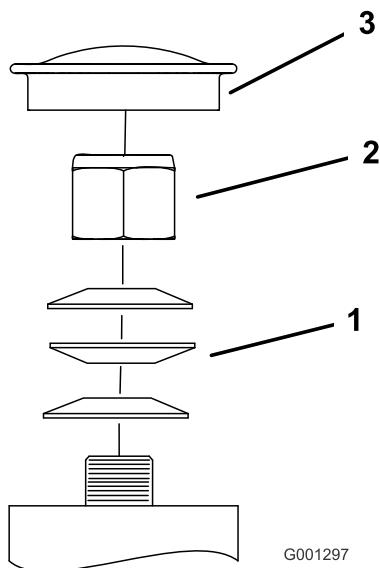

Figure 58
3. Remove the dust cap from the caster and tighten the lock nut (Figure 58).
4. Tighten the locknut until the spring washers are flat, and then back off a 1/4 turn to properly set the preload on the bearings (Figure 58).
Important: Make sure that the spring washers are installed correctly as shown in Figure 58.
5. Install the dust cap (Figure 58).